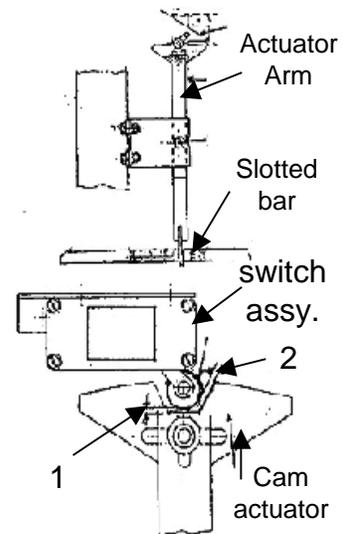

Figure 8-9a Westinghouse Escalator Broken Step Chain Safety
78. What should be the gap between the switch roller and inside of the cam in figure 8-9a arrow #1?
79. What should be the gap between the cam and the switch roller on the uphill in figure 8-9a arrow #2?